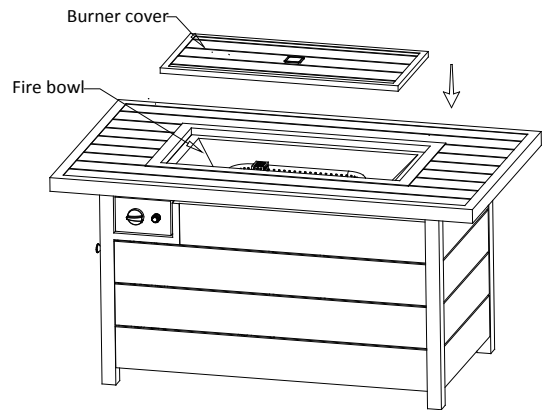

Figure 3
2. Put Burner Cover onto the fire bowl (see Figure 3).